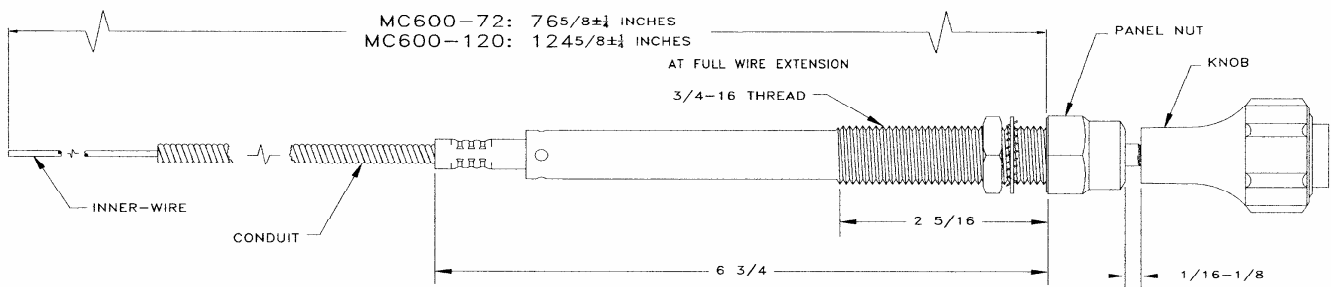

Figure 1.
10. Position the mixture control knob $\frac{1}{16}$ – $\frac{1}{8}$ of an inch from the panel nut as shown in Figure 1. Hold the carburetor's mixture arm in the full rich position. Tighten or otherwise secure the hardware as appropriate, making certain that the control's inner-wire is secure and will not slip. Follow the aircraft manufacturers service information when securing or tightening the attaching hardware.
12. Inspect the function of the installation by moving the mixture knob to the full lean position. Visually inspect the carburetor's mixture arm. It must be against the lean stop on the carburetor. Move the control knob to the full rich position. Visual inspect the control arm on the carburetor. It must be against the full rich stop and the mixture control knob must be $\frac{1}{16}$ to $\frac{1}{8}$ of an inch from the panel nut as shown in figure 1. Cycle the control from full rich to full lean several times. The control should move freely without excessive resistance throughout it's range of travel. Move the flight controls to all positions and check for interference between the flight controls and the mixture control when the mixture control is in all positions. Correct any interference before the aircraft is returned to service.